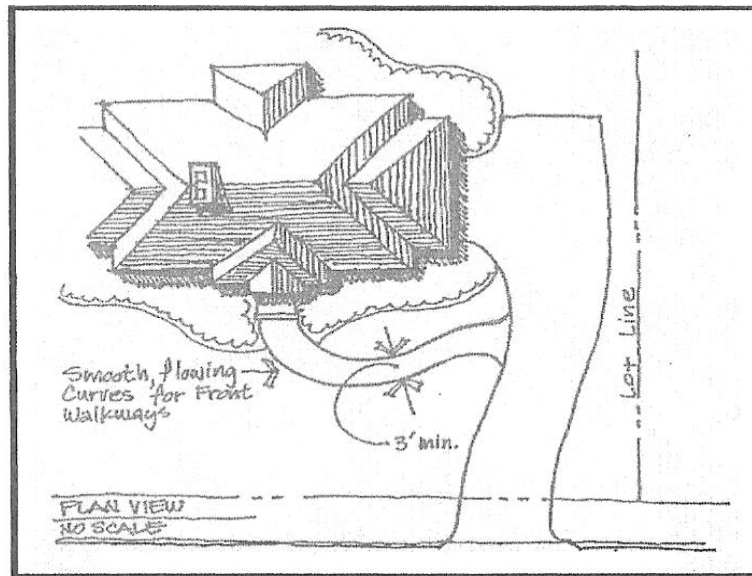

Figure 2.3.1 Driveway and Front Walkway Design
possible in all situations, particularly on cul-de-sac lots, fan lots, and flag lots; but in no case shall the side boundary of a driveway be located less than two (2) feet from a side boundary line of the Lot. Driveways should be constructed of pavers or lightly brushed concrete with a smooth troweled decorative edge, or some combination thereof, unless another material is approved for a particular Lot by the ACC. On cul-de-sac lots, circular drives with two (2) street entrances will not be permitted. Driveway width should be 12' except at garage backup area. (See Figure 2.3.1 )